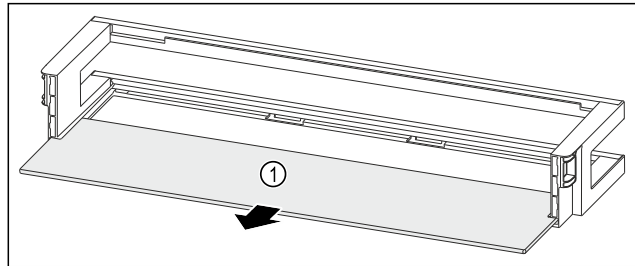

Fig. 114 Door rack with shelf
- ▶ Remove the shelf Fig. 114 (1).